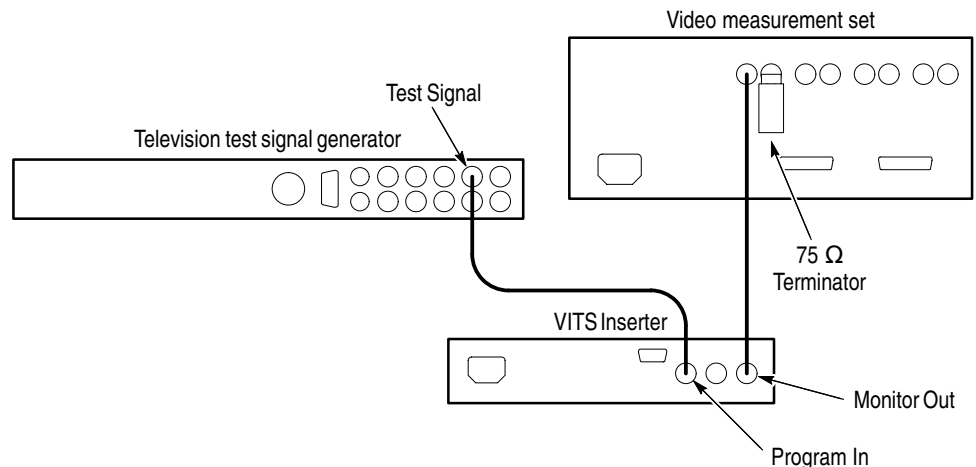

Figure 5-5: Using the video measurement set to measure waveform characteristics
2. Connect a $75\ \Omega$ coaxial cable from the VITS inserter MONITOR OUT to the video measurement set Ch A input. Terminate the remaining side of the loop-through input with a $75\ \Omega$ end-line terminator. See Figure 5-5.